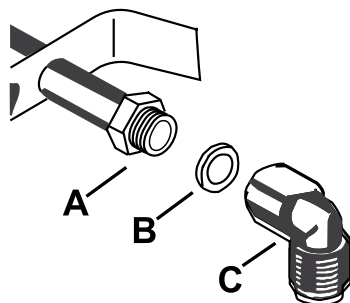

Fig. 6
- The gas piping should be fitted to the terminal connection using the GJ ½" (A) nut. Use washer (B) and elbow (C) to facilitate the connection to the fixed metal piping or hose (Fig. 6).